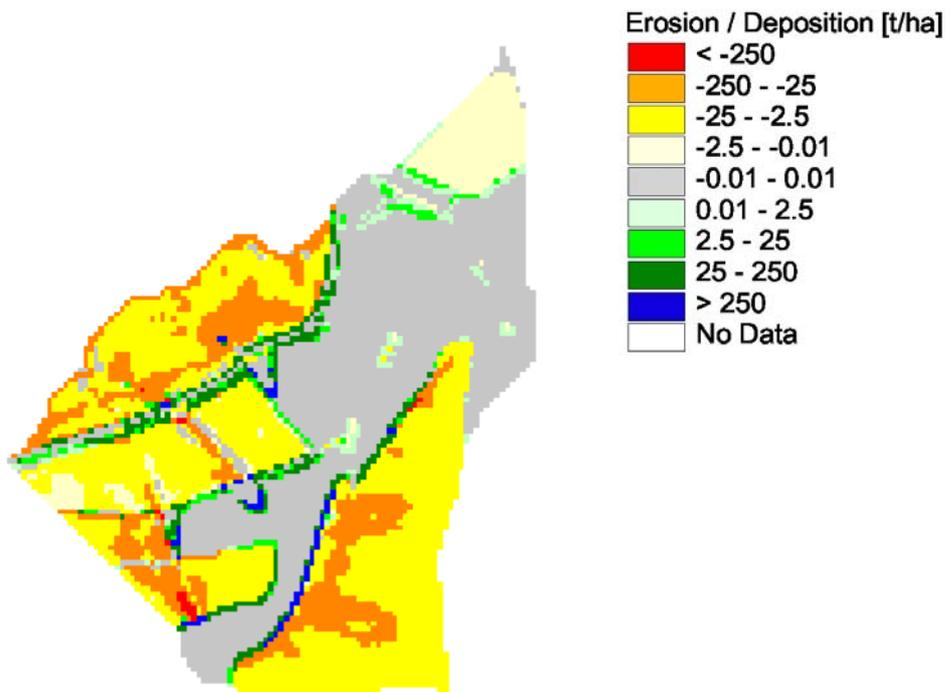

Figure 10: Total sediment budget after long term simulation
- *Its_sedbudget*: a grid containing the erosion/deposition values for each grid cell. A grid map of this file is shown in Figure 10.